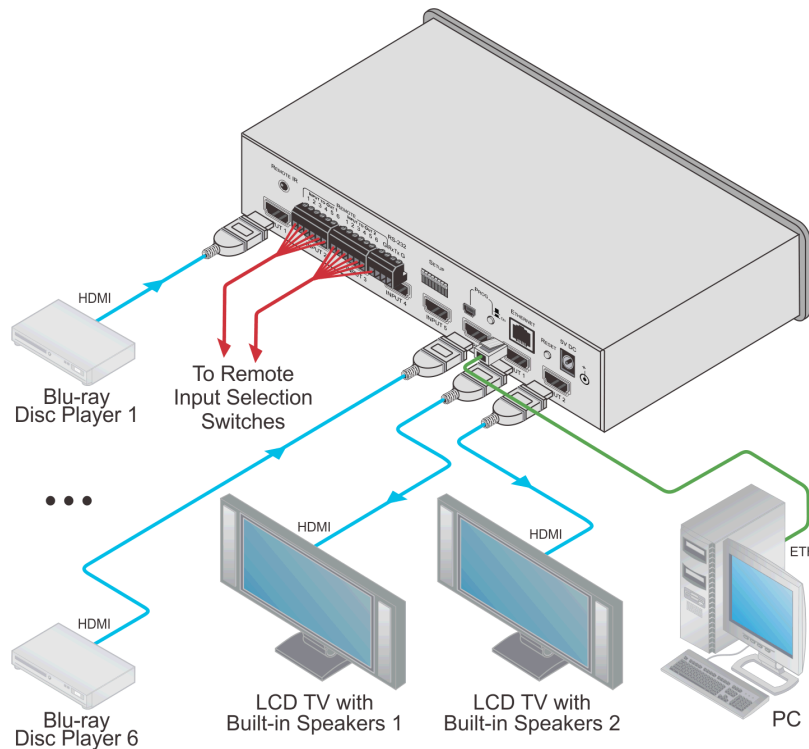

Figure 3: Connecting the VS-62H 6x2 HDMI Matrix Switcher
To connect the **VS-62H 6x2 HDMI Matrix Switcher** as illustrated in the example in Figure 3:
4. Connect the power adapter to the device and plug the power adapter into the mains electricity (not shown in Figure 3).